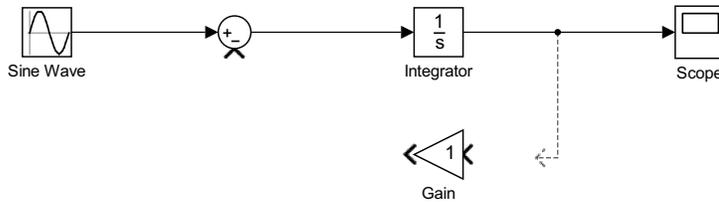

Figure 1.9: Add a node by right-clicking one the line and dragging to the input of a block.
- To add a node to route an  $x$  value to the **Gain**, hold the **CTRL** key and click on the Output line of the **Integrator** and drag towards the input of the **Gain**. You can also Right-Click the line where you want the node and drag from there to the **Gain** block. See Figure 1.9.